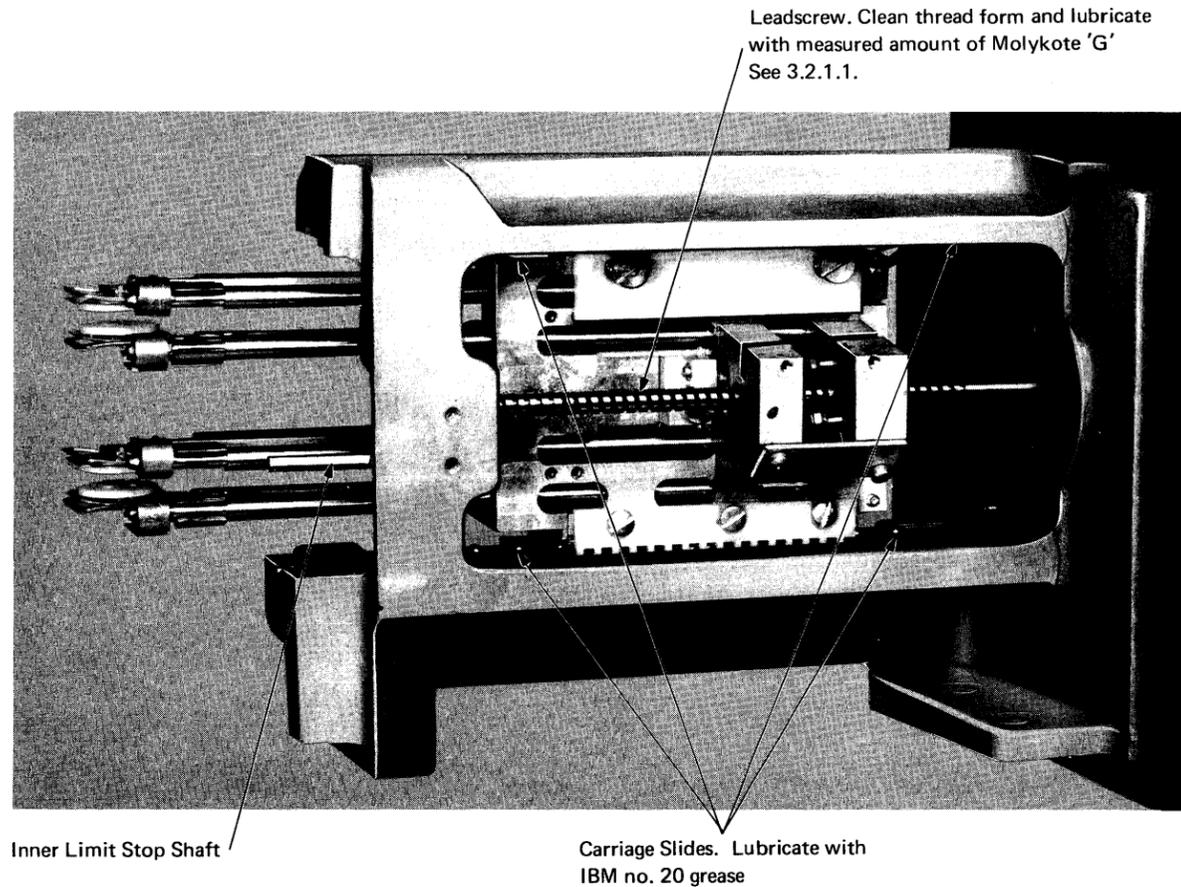

Figure 2-9. Carriage Slides and Leadscrew Lubrication [07535]
3. Clean the carriage slides and leadscrew (Figure 2-9) with lint-free tissues and isopropyl alcohol (see 2.3.2 for part numbers) to remove all traces of lubricant.